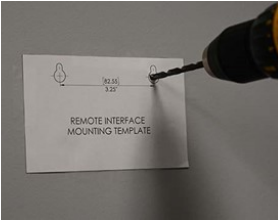

Fig. 3
3. Drill two 1/8" holes and insert anchors at the marked locations. Anchors may not be required if securing to a wall stud or racking system. Insert the screws into the holes and test fit the backing plate to ensure it mounts easily onto the two screws and slides down onto the slotted opening freely (Fig. 3).